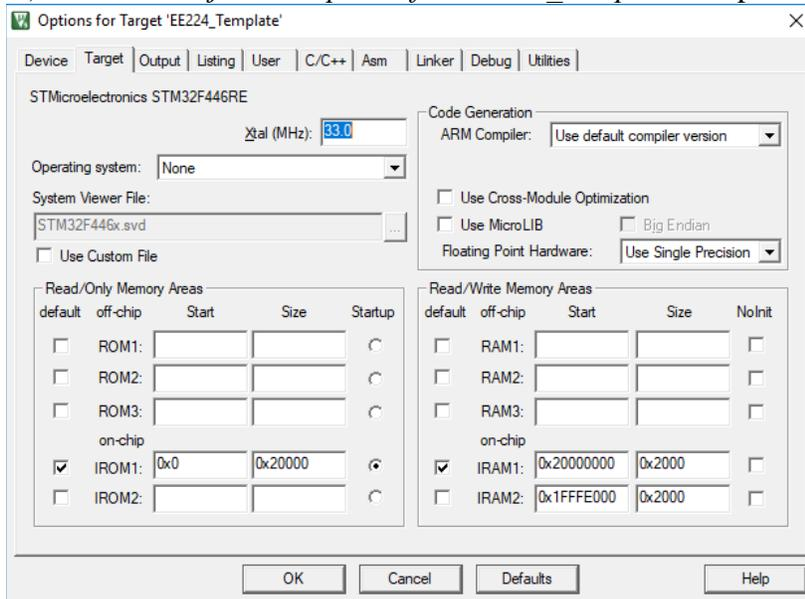

Figure 2.6
A) Click on *Project* → *Options for EE224_Template* to open the screen shown in Figure 2.6